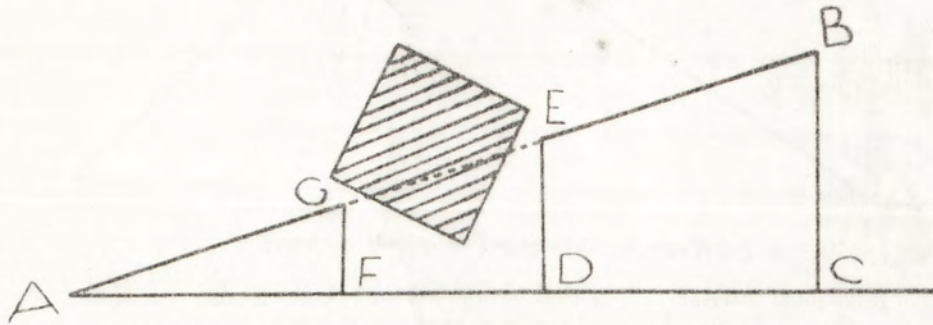

Figure 7.—Setting a straight line between two stations with an obstacle between.
1. *Stations visible from each other.*—Suppose A and B are the known stations. (See Figure 7.) Erect perpendicular BC on AB from B . Then erect perpendicular CD on BC from C . Produce CD until the obstacle is passed. Then erect perpendicular DE on CD from D . DE must be made equal to BC . From E erect a perpendicular. This is the required extension of AB .
2. *Stations not visible from each other.*—Suppose *A* and *B* are the known stations. (See Figure 7.) From *A* project a line, *AC*, passing by the obstacle. From *AC* erect a perpendicular to *B*. Then from a point *D* on line *AC* erect perpendicular *DE*, so that AC/CB equals AD/DE . Then erect another perpendicular from a point *F* on line *AC* to *G*, so that AC/CB equals AF/FG . Points *A*, *G*, *E*, and *B* are then all in line.